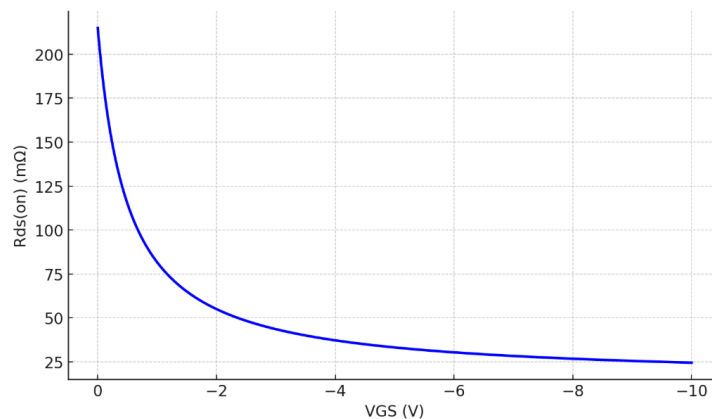

Figure 2. $R_{ds(on)}$ of pmos vs. V_{GS}
R_1 is $5\text{ k}\Omega$ and R_2 is $19\text{ k}\Omega$. If a voltage (EN) is applied to the gate of nmos transistor Q_1 , which is much larger than the gate-source threshold voltage of Q_1 , Q_1 conducts and the $R_{ds(on)}$ of Q_1 can be neglected. The $R_{ds(on)}$ of the pmos Q_2 can be observed in Figure 2.
- c) If the voltage applied to the gate-source of Q_1 is 0 V (Q_1 turned-off), which is much lower than the gate-source threshold voltage, calculate the power dissipation of the Q_2 . Use the $R_{ds(on)}$ values in Figure 2.